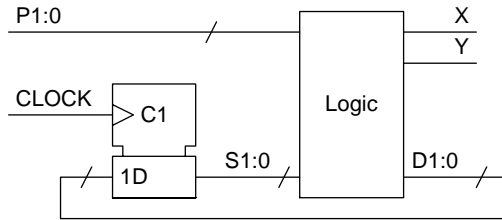

Figure 1
6. Figure 1 shows the circuit of a synchronous state machine having a 2-bit input P0:1 and two outputs, X and Y. The logic block implements the following Boolean equations: